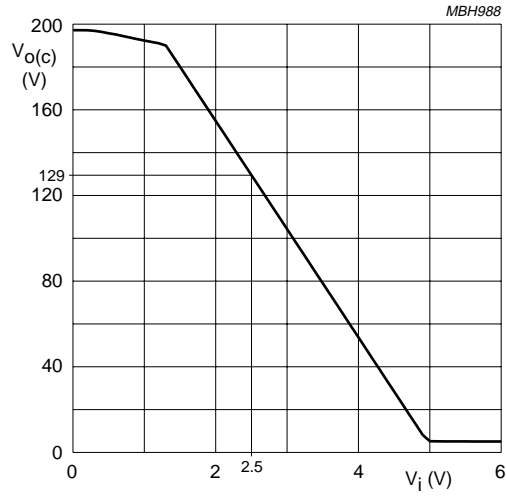

Fig.5 Typical DC-to-DC transfer of V_i to $V_{O(c)}$.
1. See also Fig.5 for the typical DC-to-DC transfer of V_i to $V_{o(c)}$.